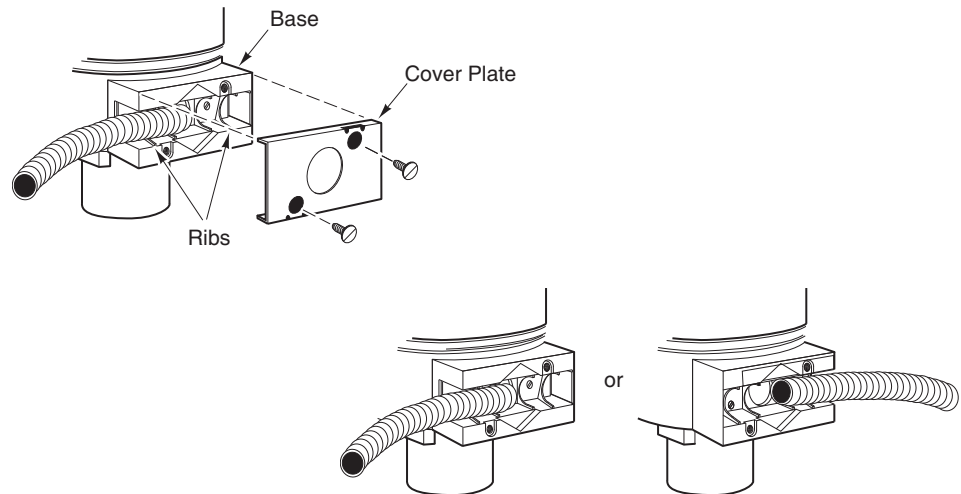
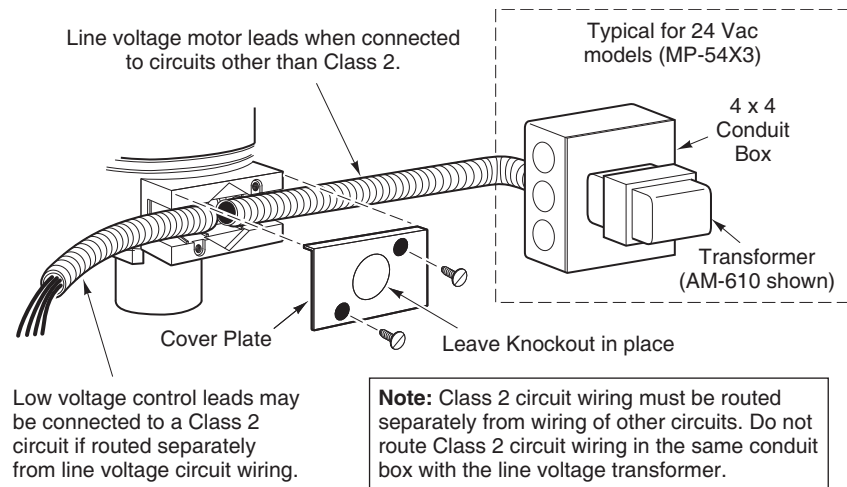

Figure-7 Flexible Conduit Installation to Either Side of Actuator.
Figure-8 MP-5400 Series Wiring with Separation for Class 2 and Line Voltage Circuits.
The control leads may be connected to a Class 2 circuit if routed separately from Class 1 circuit wiring. Refer to Figure-8.
The low voltage (24 Vac) power leads may be connected to a Class 2 circuit if routed separately from Class 1 circuit wiring. Refer to Figure-8. Line voltage power leads must be connected to a Class 1 circuit.
Flexible conduit may be installed onto one or both sides of the actuator (refer to Figure-7 and Figure-8). Install each conduit as follows:
4. Slip the conduit onto the base, over the ribs. Refer to Figure-7 and Figure-8.